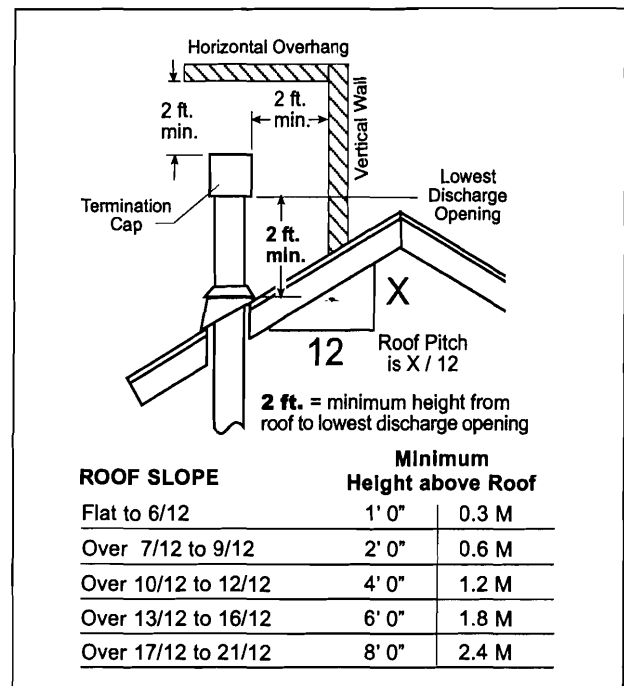

Figure 11. Gas Vent Height Rule: Vertical vent termination height above roof.
- **GAS VENT RULE:** In no case shall any discharge opening on the cap be less than 2' (610mm) horizontally from the roof surface. See Figure 11.